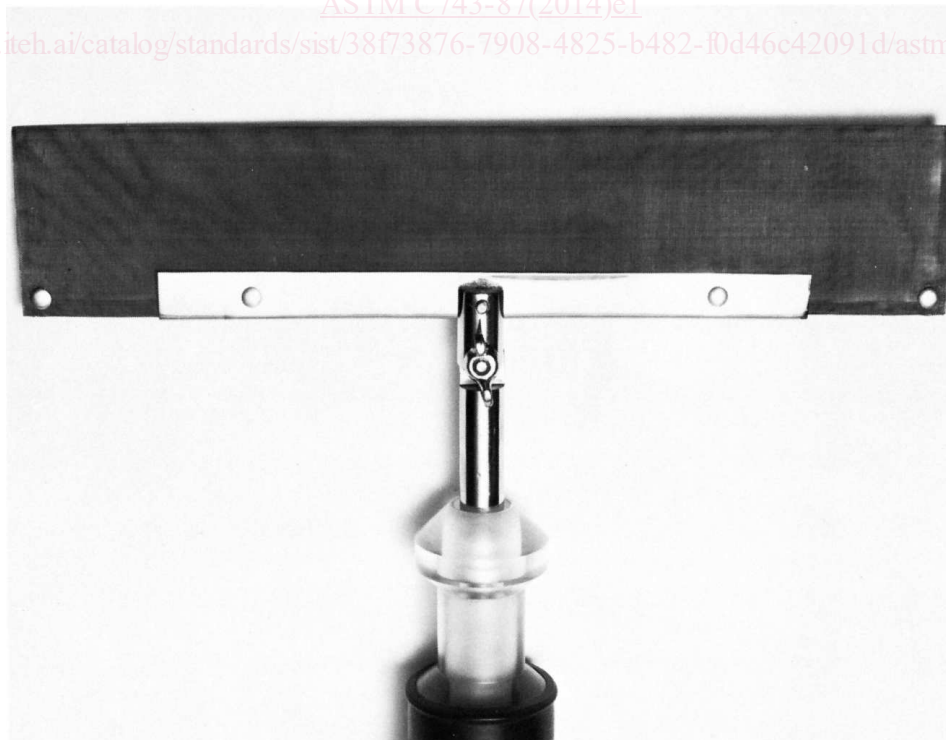

FIG. 1 Test Probe
4.3 A test probe constructed of 100 mesh wire gauze as illustrated in Fig. 1.